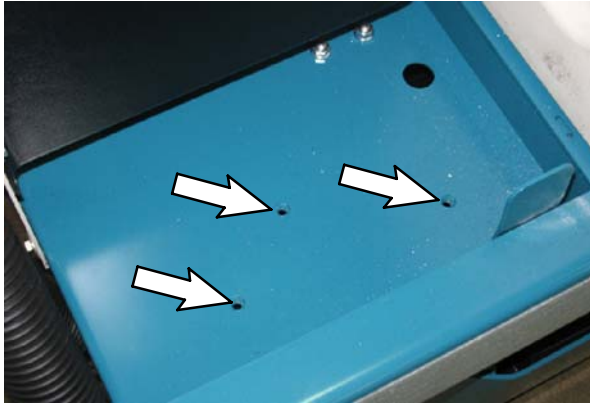

FIG. 20
29. Thread three M6 X 1.25 SEMS screws into the frame of the machine. Refer to Fig. 20.